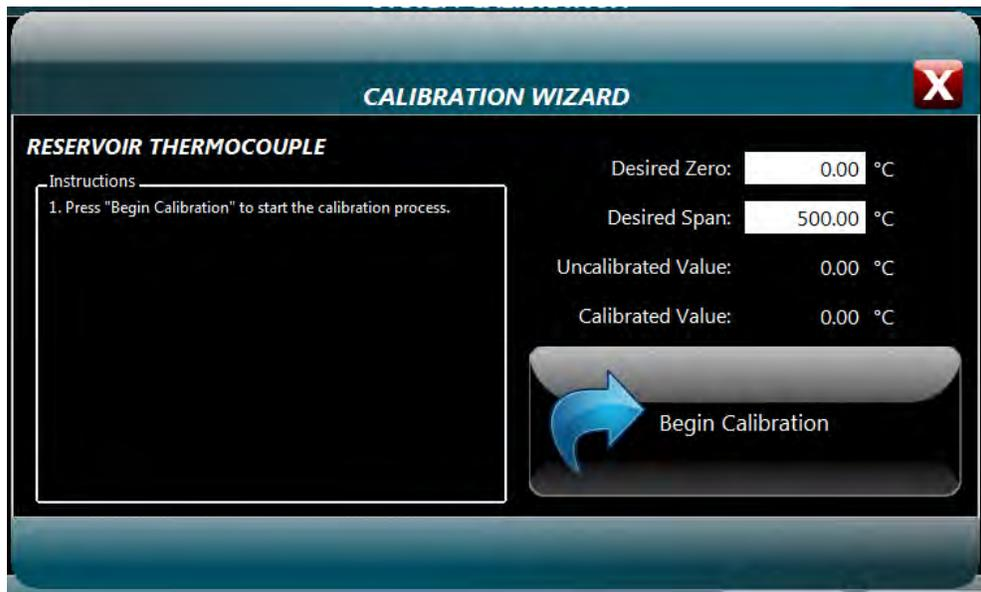

Figure 5-3 – Thermocouple Electronic Calibration Wizard display with Begin button
1. From the display, select the desired thermocouple button to be calibrated. If the tube thermocouple is to be calibrated, select the 'Electronic' button when asked for the method to be performed (two (2) methods of calibration exist for the tube thermocouple).
2. Select the 'Begin Calibration' button on the Calibration Wizard display to start the process (figure 5-3).